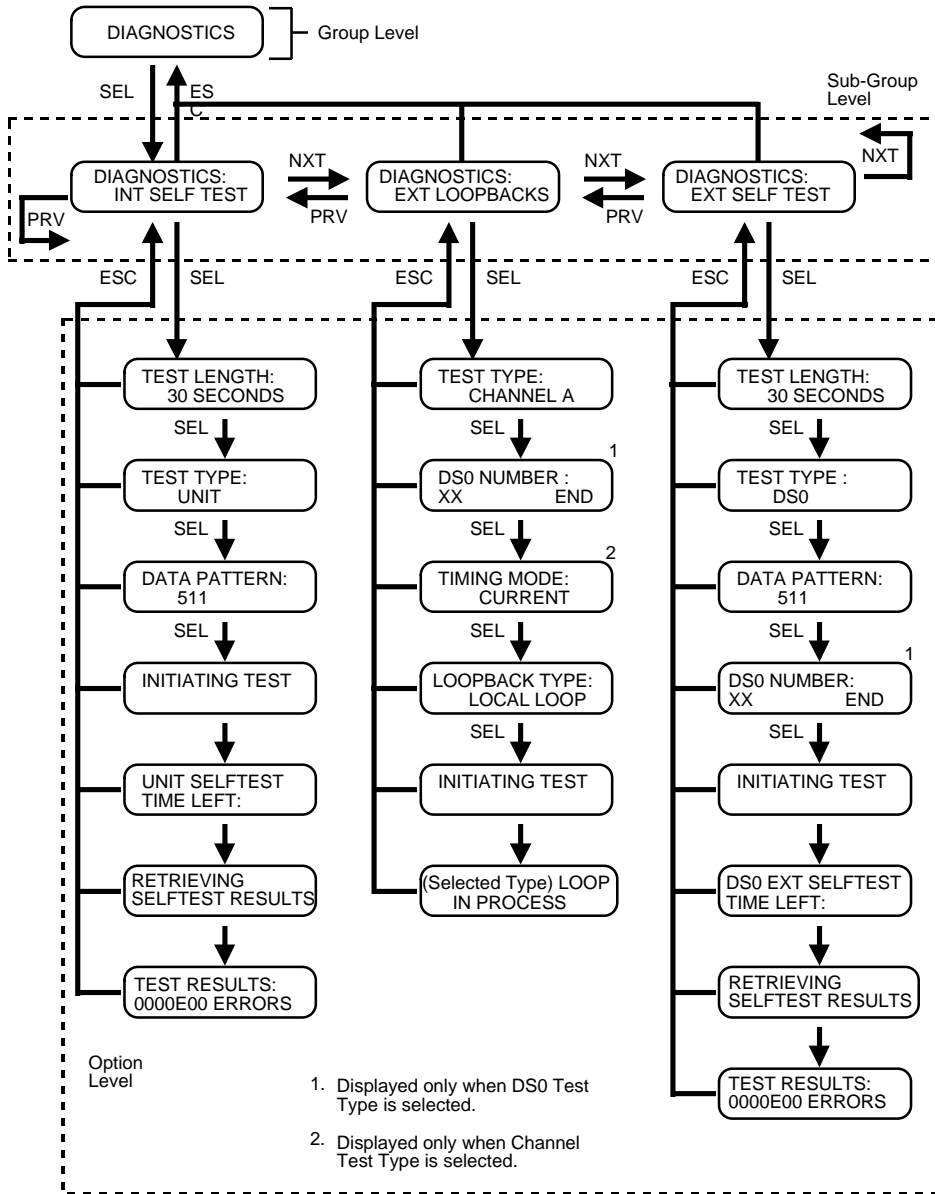

Figure 3-9 Diagnostics Screens
11. When you are done modifying Configuration options in all subgroups, press the ESC key while a sub-group name screen is displayed. *Figure 3-9* illustrates the procedure that is then required to return to the Configuration group level screen.